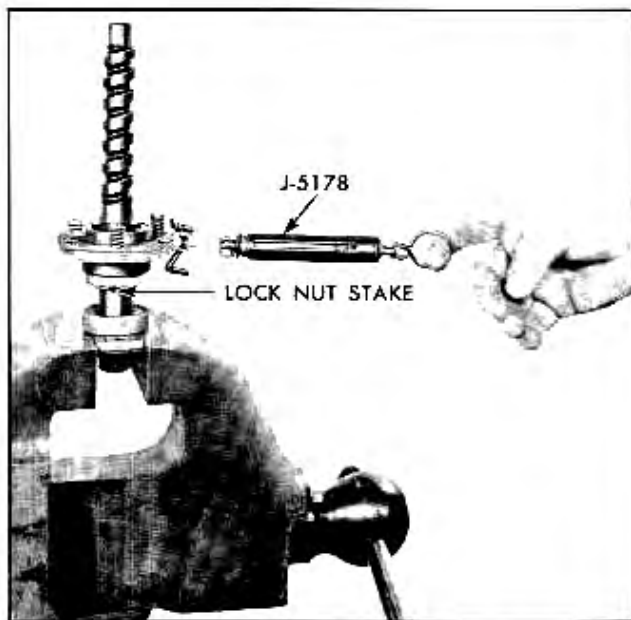

Fig. 9-39 Testing Worm Thrust Bearing Preload
a. Support worm shaft and bearing in flange clamped in vise. (Fig. 9-39).
2. Use a new thrust bearing if required, with centering springs toward worm. Install preload washer and new nut to obtain  $\frac{3}{4}$  to 3 lbs. pull (Fig. 9-39).